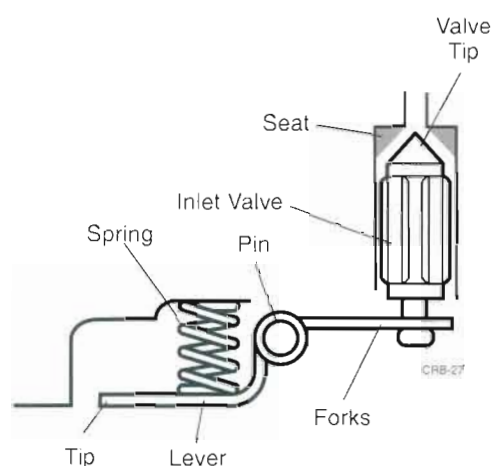

Figure 3.23 Metering Valve Installation
- Inspect the metering lever for signs of wear at the forks, hinge-pin, or tip. Replace any lever showing signs of measureable wear (Figure 3.23).